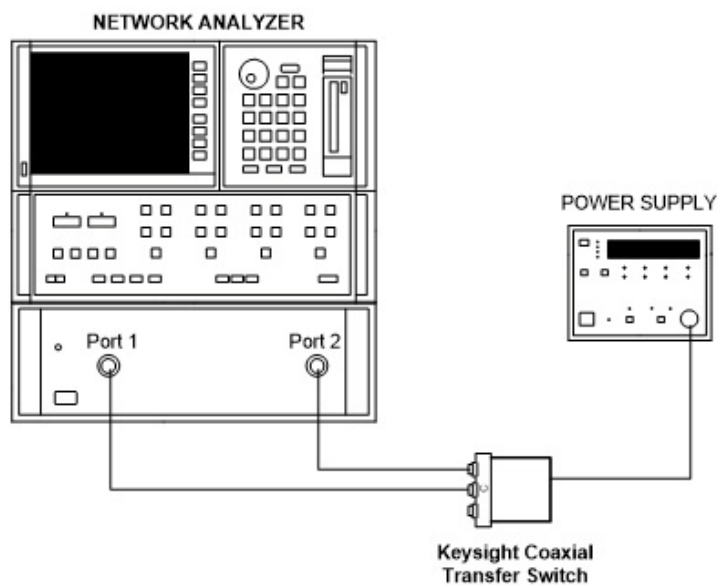

Figure 4-1 Connection to perform quick check
- 1 Connect the common port of the switch to Port 1 of the network analyzer and one of the outer RF ports to Port 2 of the network analyzer as illustrated in Figure 4-1.